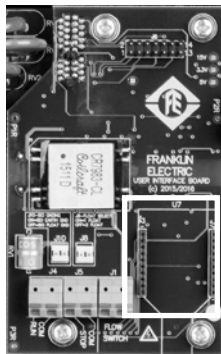

Figure 2
4. The Photon™ Drive User Interface (U/I) board contains (2) 10-pin headers in the bottom right section (delimited by the area marked as U7, as shown on Figure 2).